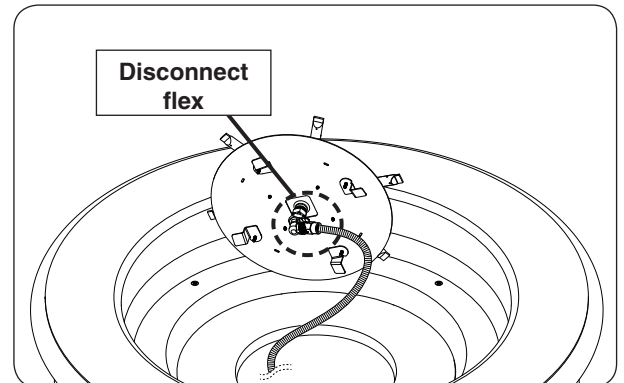

Fig. 23-3 Disconnect flex connector
3. Disconnect flex connector attached to the burner assembly (see Fig. 23-3). Store the burner in a safe location.